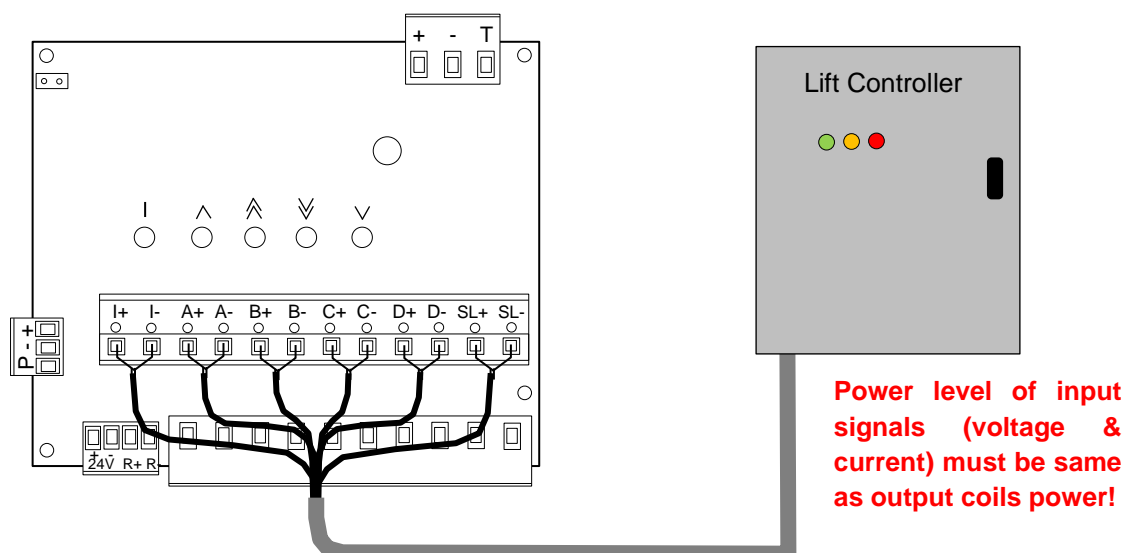

Figure 16: Wiring of the Pro-Hydro card to the lift controller
- 5- See below table and Figure 16 for wiring.